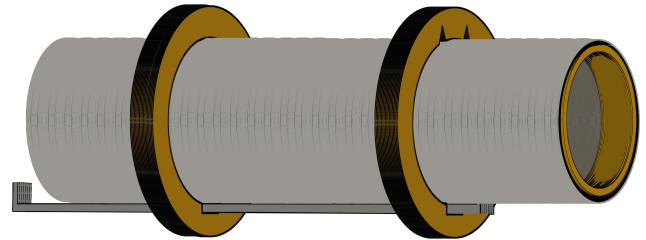

Figure 3
- **Step 6** Figure 3 shows the general final configuration for both mounts. The actual